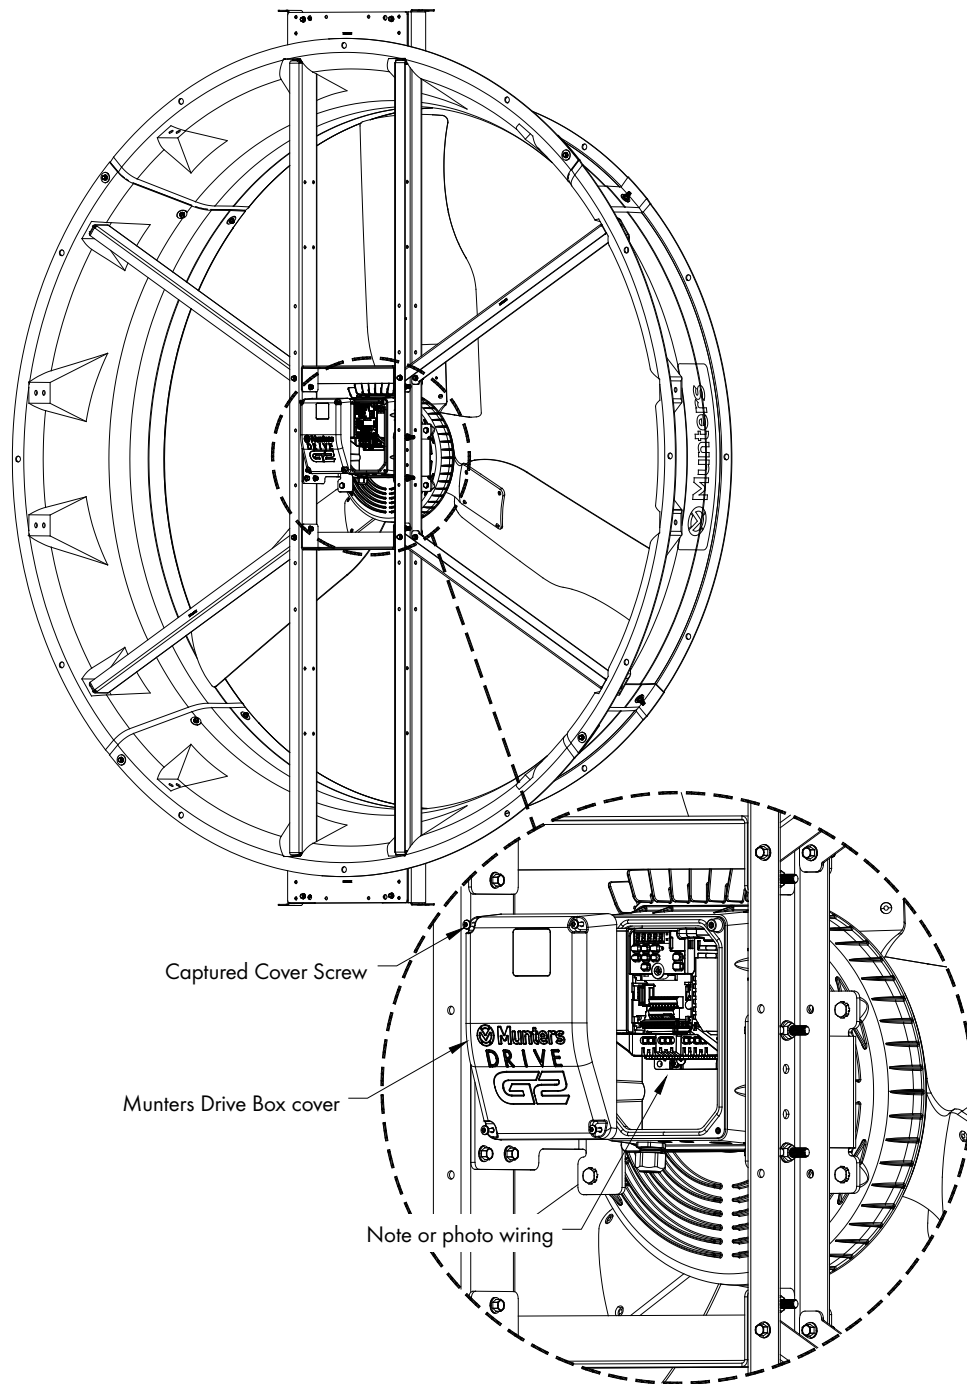

Figure 14
Loosen the (4) captured screws in the Munters Drive Box cover to access the drive wiring. Make a note of or taking a photo of the wiring. Disconnect 3 phase power and the control wires from the drive from the and from the box. Then replace the cover. See Figure 14.